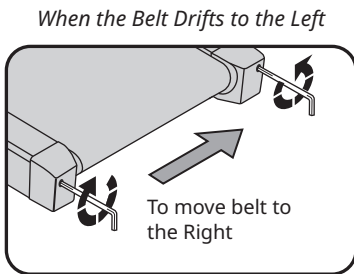

Figure 1
- C. If the belt drifts to the left, turn the left adjustment bolt one-quarter turn clockwise and the right adjustment bolt one-quarter turn counter-clockwise. (See Fig. 1)